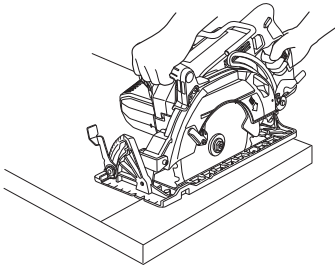
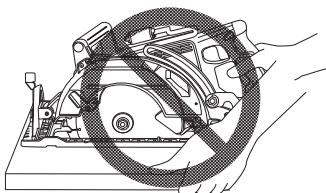

Fig. 2
Fig. 3
4. **Place the wider portion of the base on that part of the work piece which is solidly supported, not on the section that will fall off when the cut is made.** As examples, Fig. 2 illustrates the RIGHT way to cut off the end of board, and Fig. 3 the WRONG way. If the work piece is short or small, clamp it down. **DON'T TRY TO HOLD SHORT PLACES BY HAND!**